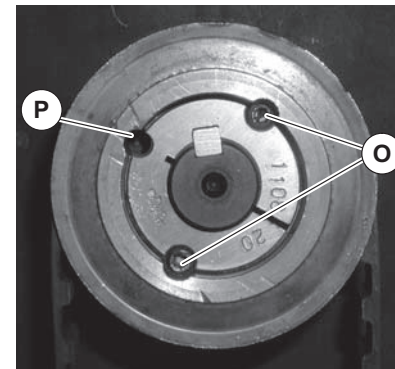

Figure 19
- b. Loosen taper set screws (Figure 19, item O) on the driven pulley. Remove one set screw and insert in open hole (P). Tighten until pulley slides off drive shaft.